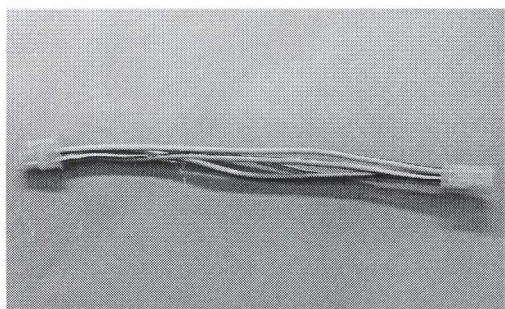
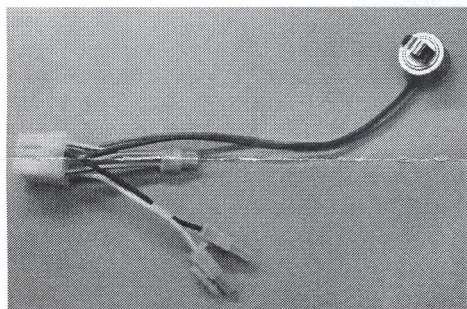

FIGURE 1
FIGURE 2
This evaporator motor service kit is supplied with one evaporator motor that can be used for a KitchenAid built-in bottom freezer, KitchenAid built-in side-by-side, or Counter Depth refrigerator. This evaporator motor service kit is also supplied with a new jumper harness for the KitchenAid built-in bottom freezer (Figure 1) and a new defrost bi-metal harness for the Counter Depth refrigerators (Figure 2).
3. If the product is a **Counter Depth refrigerator**, the old defrost bi-metal harness connected to the evaporator fan jumper harness must be removed. This harness contains a 9-pin connector and the defrost bi-metal. For the Counter Depth refrigerator **ONLY**, replace the old defrost bi-metal harness with the new defrost bi-metal harness contained in the kit (Figure 2).